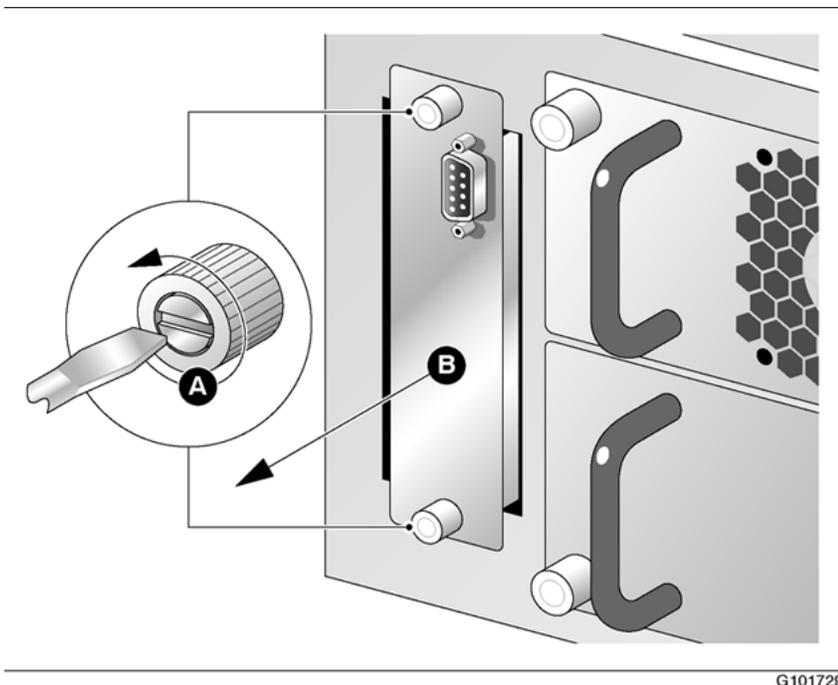

Figure 19: Alarm board carrier
2. Loosen the two thumbscrews securing the faceplate to the left of the 1002rp server power supply modules (see A in Figure 19: Alarm board carrier on page 91).
3. Pull the carrier free from the chassis (see B in Figure 19: Alarm board carrier on page 91).